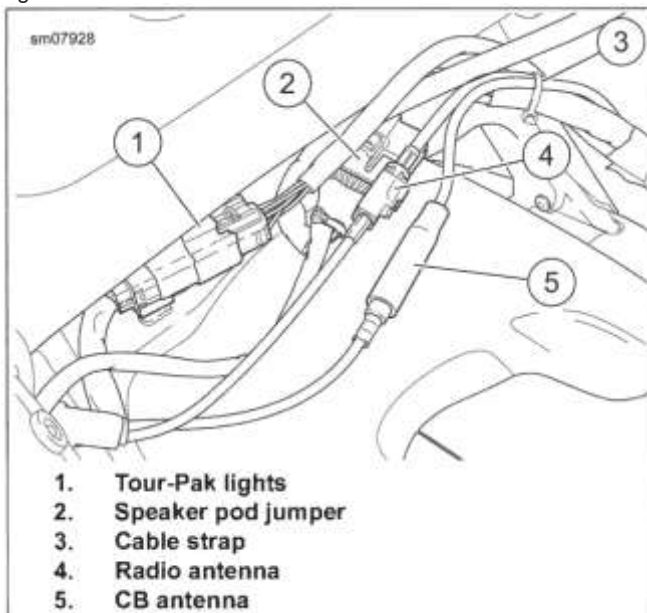

Figure 8-88. Tour-Pak Harness Connectors
6. See Figure 8-88. Disconnect antenna cable connector (4) at rear fender.
7. Cut cable strap (3). Remove antenna cable.
3. See Figure 8-88. Mate antenna cable connectors at top of rear fender. Install new cable strap (3).